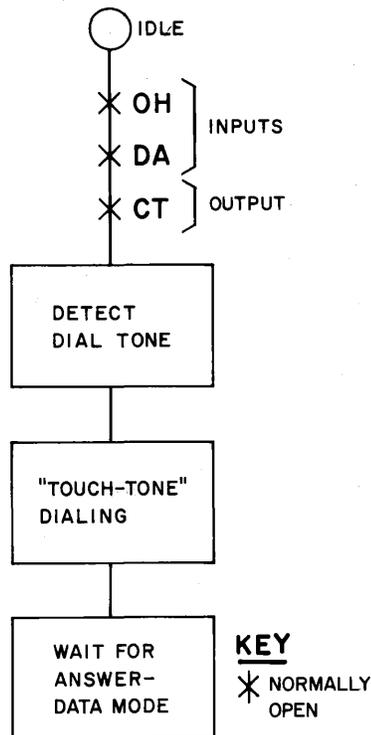

Fig. 5—Customer Automatic Calling Sequence Diagram—TOUCH-TONE Dialing
2.23 Call Origination (Tone-Address Signaling): Figure 5 shows the call origination sequence for tone-address signaling. As previously stated, turning **on** the OH and DA leads causes the coupler to go off-hook and provide a transmission path between the data terminal and the telephone line. When dial tone is present, multifrequency signals are generated to access the switched network. The customer may then wait for answer tone or a verbal answer before transmitting data.